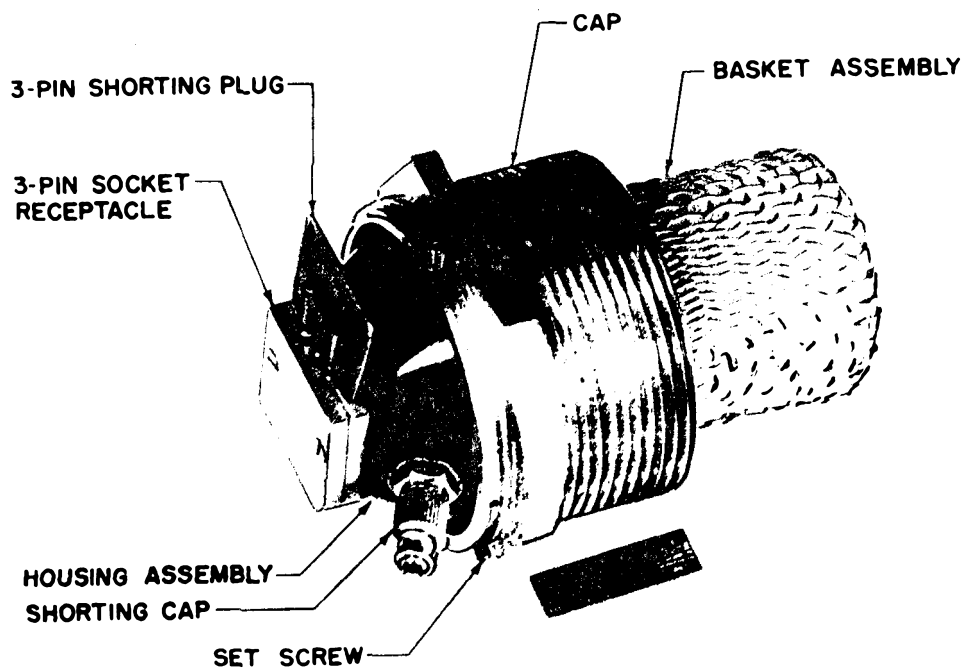

Figure 5-35. Igniter, MK 258 Mod 0
(1) MK 258: Used with the AIM-7D and the MK 6 motor. It is safed by an electrical save/arm switch which is packed separately and must be attached to the forward end of the motor prior to igniter installation. The arm/safe switch safes the igniter by interrupting the igniter firing circuit (reference figure 5-35).